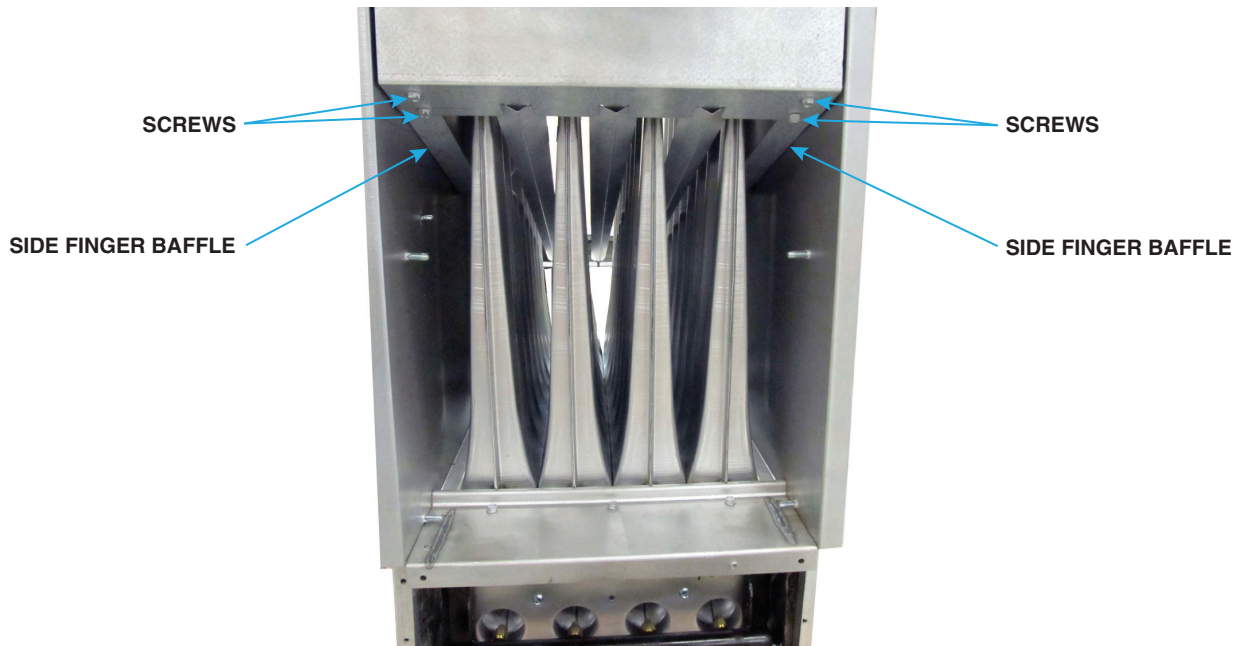

Figure 4. Side Finger Baffle Removal
2. Remove side finger baffles on unit sizes 125–400 (see Figure 4):